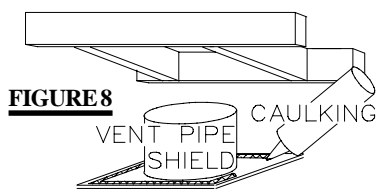
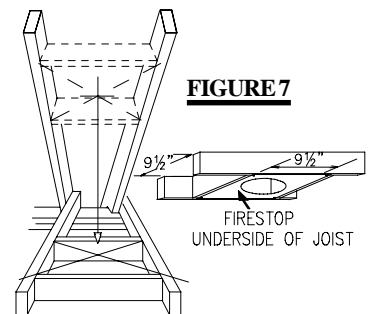

FIGURE 8
FIGURE 7
2. Apply a bead of caulking (not supplied) to the framework or to the Wolf Steel vent pipe shield plate or equivalent (in the case of a finished ceiling), and secure over the opening in the ceiling. **FIGURE 8.** A firestop must be placed on the bottom of each framed opening in a roof or ceiling that the venting system passes through. **FIGURE 7.** Apply a bead of caulking all around and place a firestop spacer over the vent shield to restrict cold air from being drawn into the room or around the fireplace. Ensure that both spacer and shield maintain the required clearance to combustibles. Once the vent pipe / liner is installed in its final position, apply sealant between the pipe / liner and the firestop spacer.